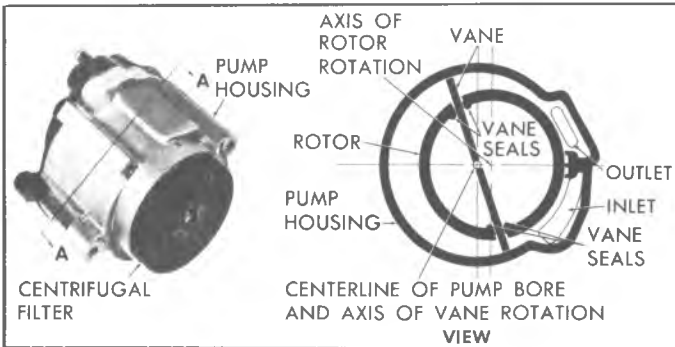

Fig. 8f—Air Injection Pump Components
**Pump Components (Fig. 8f)**
3. Set (2) of vanes which rotate about the centerline of pump housing bore.